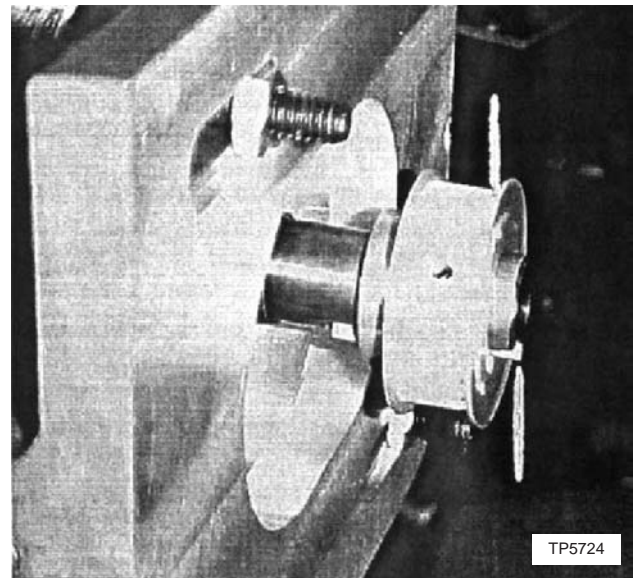

Figure 12.16 - Installation of Motor Mount Plate and Pulley
71. Slide the motor pulley (hub up) over the shaft of the servo motor until the same distance is achieved from the face of the motor plate to the first flange. Secure the pulley (see Figure 12.16).
74. Position the motor plate over the mounting holes on the top housing and fasten it using the (5) socket head cap screws (#10-32 x 3/4") supplied.
76. Remove the DRO cable from reader head and slide the cable through the top cover and fasten the top cover to the top housing using the (5) button head cap screws (#10-32 x 3/8") supplied.
80. Place the bottom travel stop on the inside of the lower assembly and in line with the (2) front tapped holes. Fasten the plate to the lower assembly using the (2) socket head cap screws (#4-40 x 3/8") supplied.